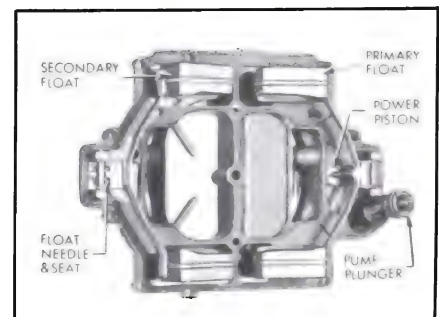

Figure 3-51—Air Horn Parts
5. Remove all air horn screws, then carefully lift air horn straight up from main body to avoid damaging floats, pump plunger, and vacuum power piston which are attached to air horn. See Figure 3-51.
7. Remove float hinge pin, float needle, needle seat, and gasket from side opposite pump (secondary). Then remove needle seat strainer. See Figure 3-51.